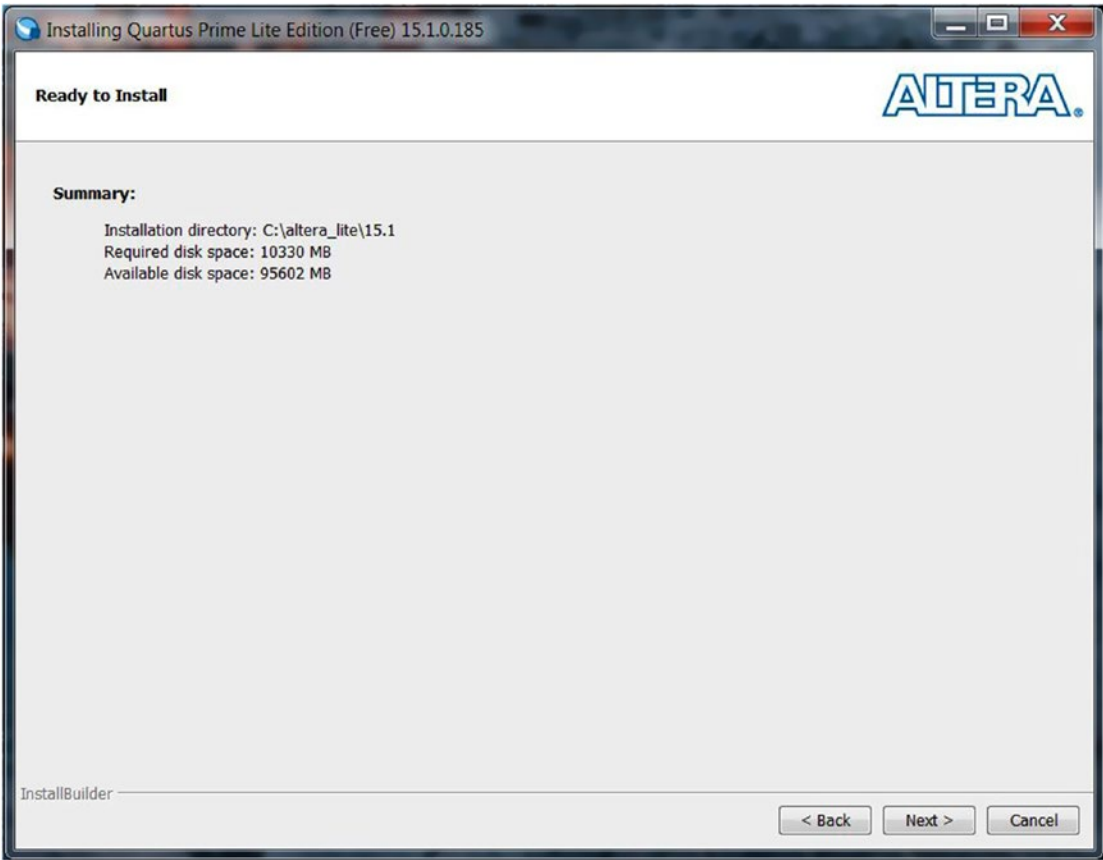

Figure 3-14. It needs your approval to install the software (*Ready to Install*)
5. This window shows how much space is needed to install the tools and asks for your approval to install (Figure 3-14) by clicking *Next*.